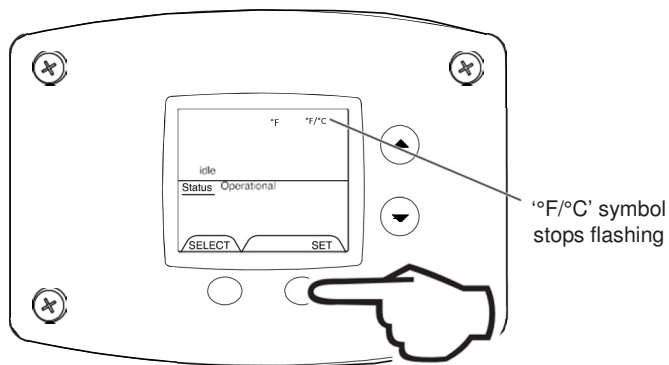

Fig. 60
4. Press 'Set' button to confirm °F or °C format. °F/°C will stop flashing (Fig. 60).